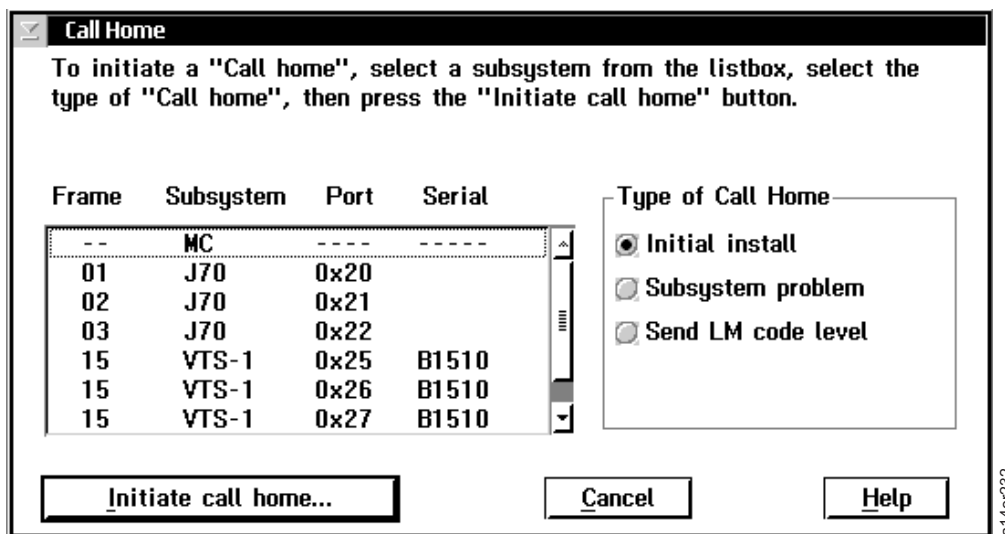

Figure 2-112. Call Home Dialog Box
1. To test call home through the System Console, use the 3494 ATL or the 3953 menu commands **Commands --> Call Home...** to view the Call Home Dialog box (see Figure 2-112 on page 2-82).